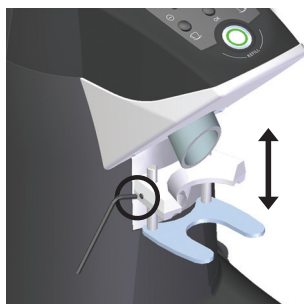

Fig. 1
1. Loosen the two adjustment screws (15) found on each side of the upper portafilter fork (10), by using the Allen Key included with your grinder.
3. Tighten the screw (15) found on each side of the upper portafilter fork (10), with the Allen Key provided (Fig. 1).
Unpack the grinder carefully and place it in the assigned work space. Before placing the bean hopper on the grinder, loosen the security screw found on the upper collar of the grinder (④). Place the bean hopper (②) on the upper part of the grinder so that the bean trap lever (③) is positioned on the right side of the grinder in the **CLOSED** position (**Fig. 1**). Once the bean hopper is placed on the grinder, rotate it clockwise until it is firmly in place and can rotate no further. If desired, replace the hopper security screw (④) to ensure the hopper cannot be removed manually.